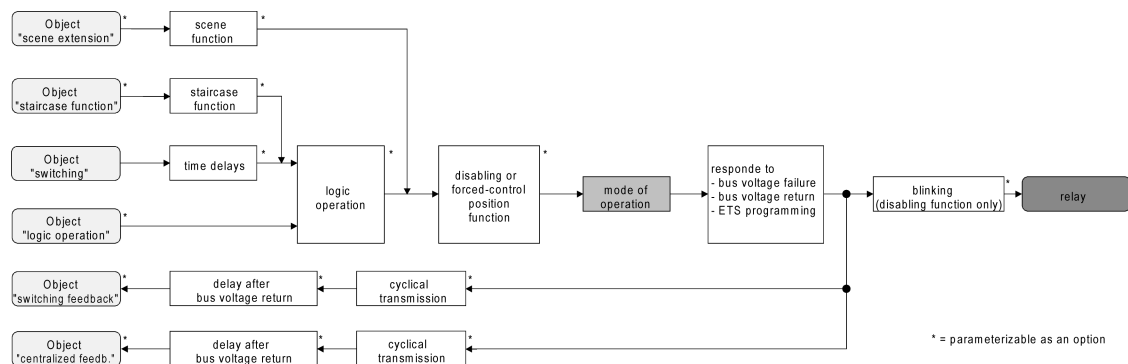

Figure 16: Function diagram "Operating mode"
- i** The logic switching state ("on - 1" or "off - 0") is set by the communication object "Switching" and influenced by the functions that can be optionally activated (e.g. timing/ staircase functions, logic operations, disabling/forced-control position functions, scenes) (figure 16).